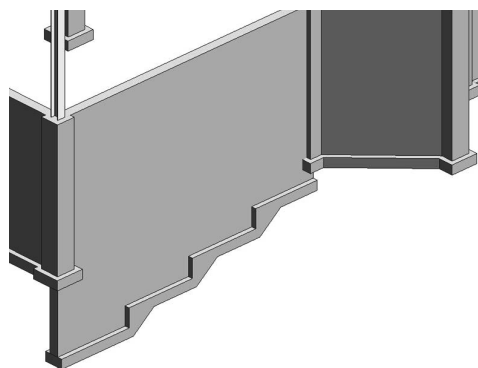

Figure 7-59
14. View the new footings in 3D, as shown in Figure 7-59.